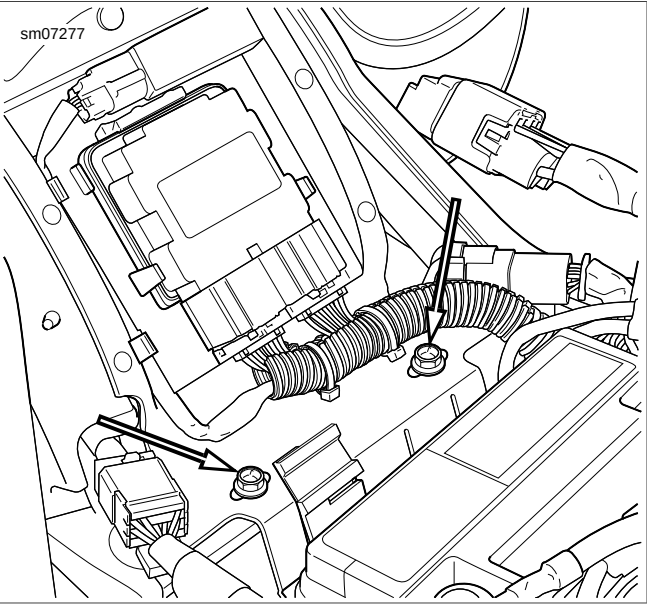

Figure 3-179. Wire Shield Fasteners
9. See Figure 3-179. Install two bolts to attach wire shield to frame.